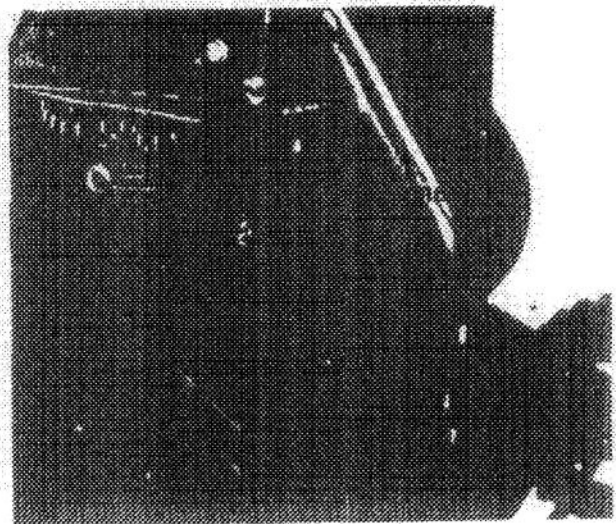

Figure 19
1. Power Adjusting Screw (Fig. 19) - Close screw by gently rotating it clockwise until a slight seating resistance is felt. Next, rotate power adjusting screw 7/8 of a turn counterclockwise.
2. Idle Adjusting Screw (Fig. 19) - Close screw by gently rotating it clockwise until a slight seating resistance is felt. Next, rotate idle adjusting screw 1 full turn - 360° - counterclockwise.